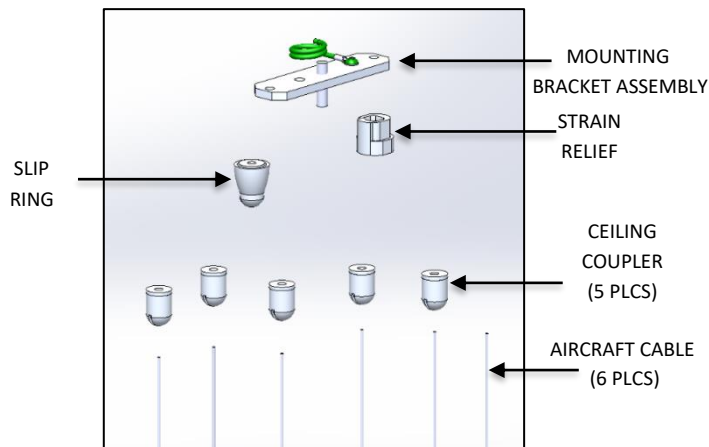

FIG. 5 - MOUNTING KIT CONTENTS
- b. MOUNTING KIT (as shown in FIG. 5)
- iii. FIVE (5) CEILING COUPLER (CC)
- iv. SIX (6) AIRCRAFT CABLE